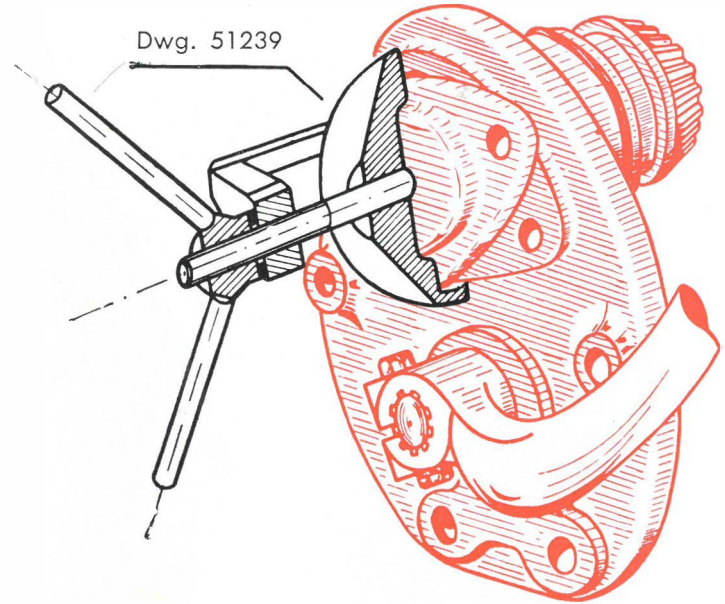

Fig. 73 - How to use the tool 51239
Slacken the remaining two screws fixing the cap (10) to the cover (15); next apply the puller 51239 (look at fig. 73)